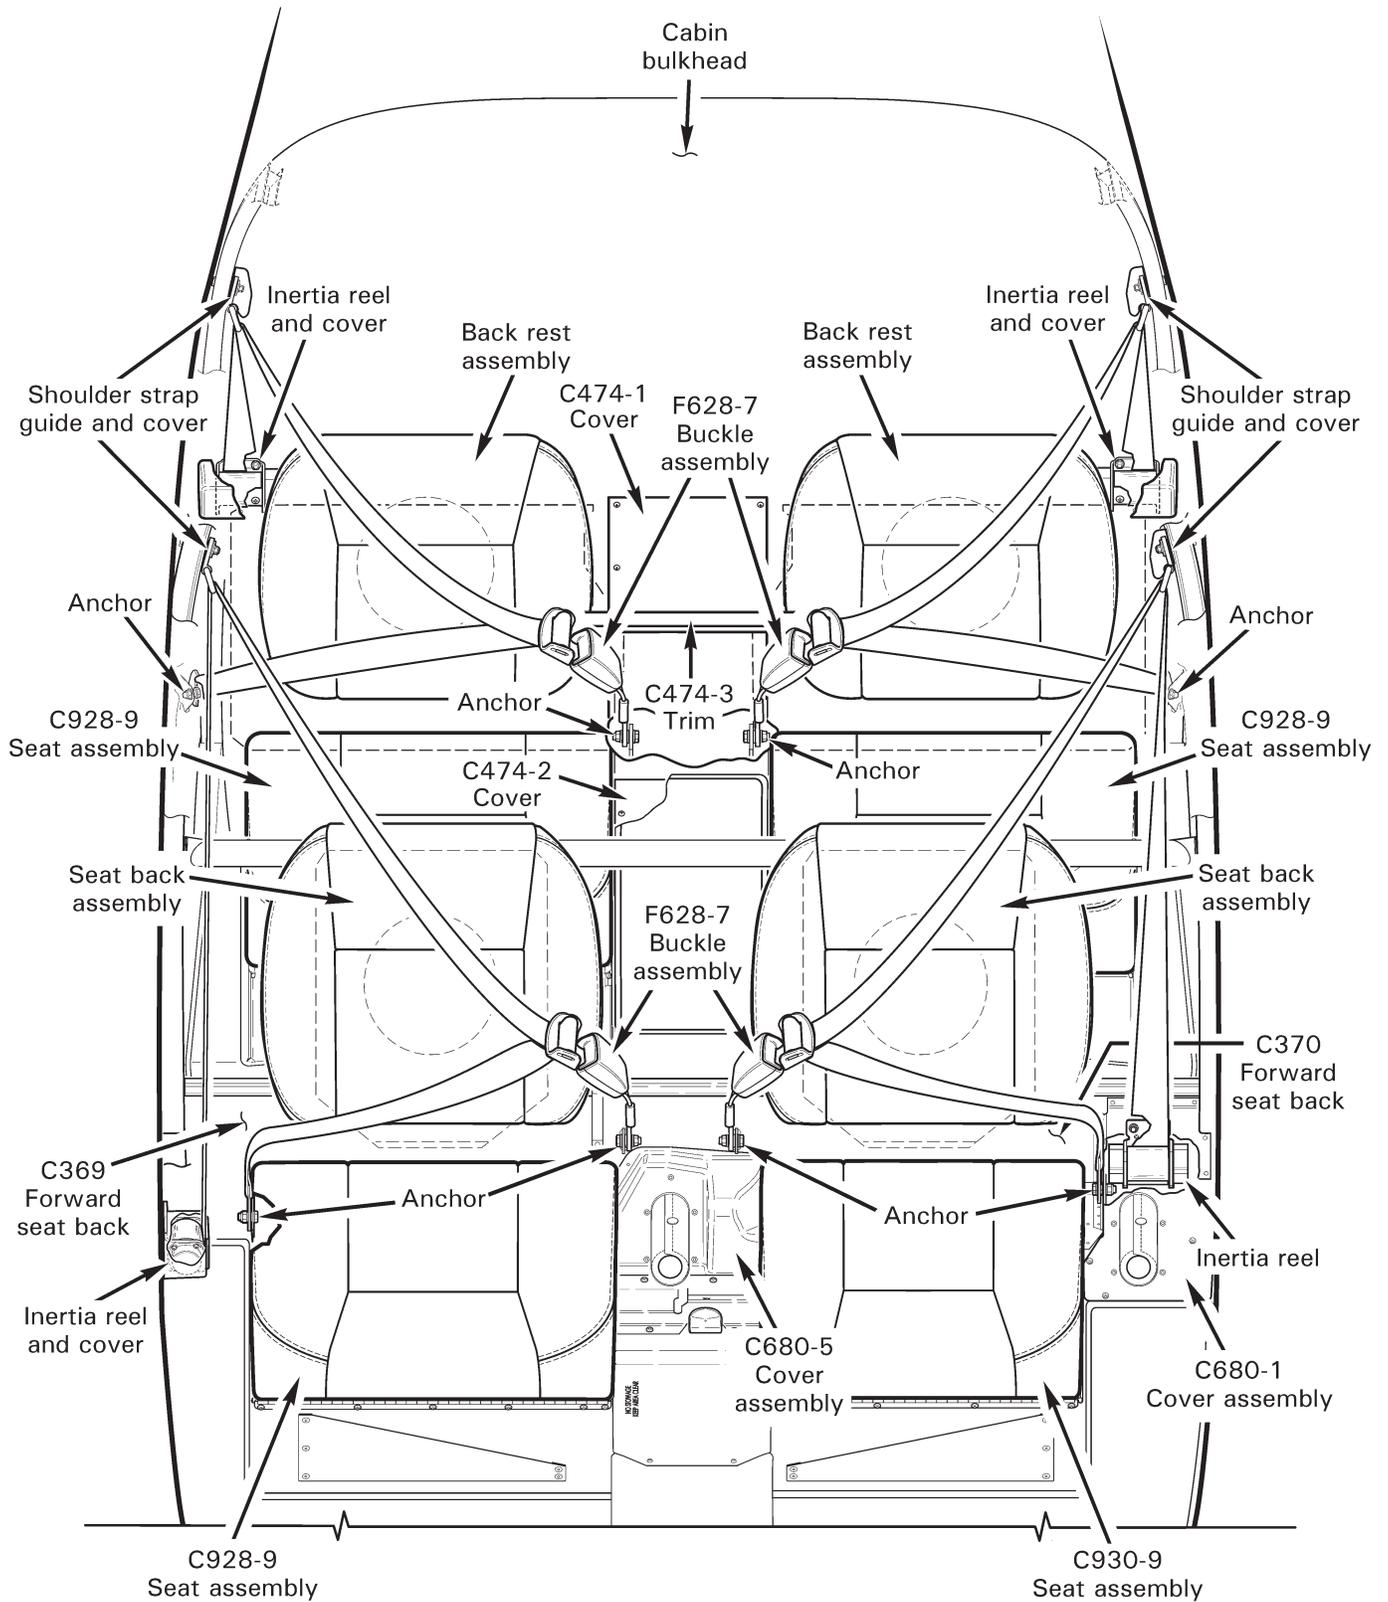

FIGURE 15-1 SEAT HARNESSSES, SEAT ASSEMBLIES, AND BACK RESTS
1. Refer to Figure 15-1. As required, remove C680-1 (removable collective) cover assembly. Hinge seat assembly forward.
1. Refer to Figure 15-1. Install hardware securing inertia reel to cabin and install reel cover. Verify security.
2. Refer to Figure 15-1. Remove hardware securing seat assembly hinge to seat box and remove seat assembly.
2. Refer to Figure 15-1. Position seat assembly on seat box and install hardware securing hinge to seat box. Verify security.
1. Refer to Figure 15-1. Remove hardware securing C474-1 cover, C474-3 trim, and C474-2 cover to cabin. Remove covers and trim.
2. Refer to Figure 15-1. Drill out rivets securing back rest assembly cushion to back rest panel and remove cushion. Deburr holes.